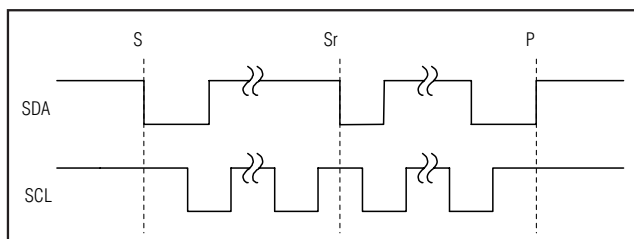

Figure 5. START and STOP Conditions
The master initiates a transmission with a START (S) condition, a high-to-low transition on SDA while SCL is high. The master terminates a transmission with a STOP (P) condition, a low-to-high transition on SDA while SCL is high (Figure 5). A repeated START (S_r) condition can be used in place of a STOP condition to leave the bus active and the interface mode unchanged (see the *HS Mode* section).